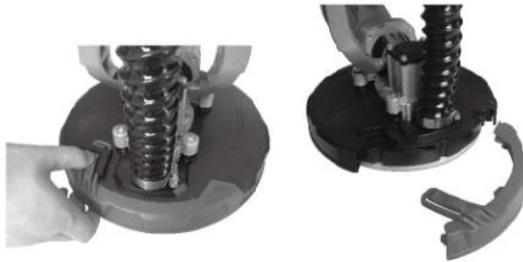

Fig 7
11. Application of the corner sanding (Fig.7)